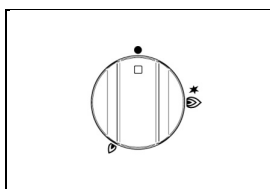

Fig 14A
- To light a burner, press in the control knob (Fig.14A-14B) and turn it anti-clockwise, to the large flame position.